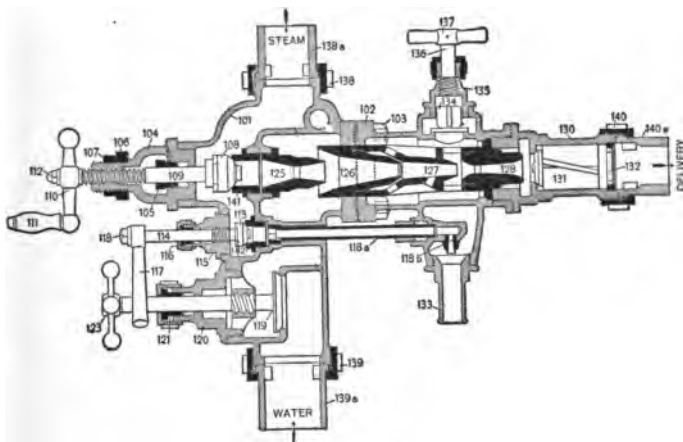

FIG. 4.
One of the most successful and enduring injectors in use is the Monitor, the distinguishing characteristic of which is the independent lifting-jet, which being uninfluenced by any other part of the injector, enables it to make the priming or starting reliable under the most adverse circumstances. The injector shown in Fig. 4 is an improvement on the original Monitor and is provided with removable seats for the steam- and lifting-valves (141) and (142), making the body practically indestructible. The water-valve (119) in this type of injector is an ordinary screw-valve of simple and positive construction.